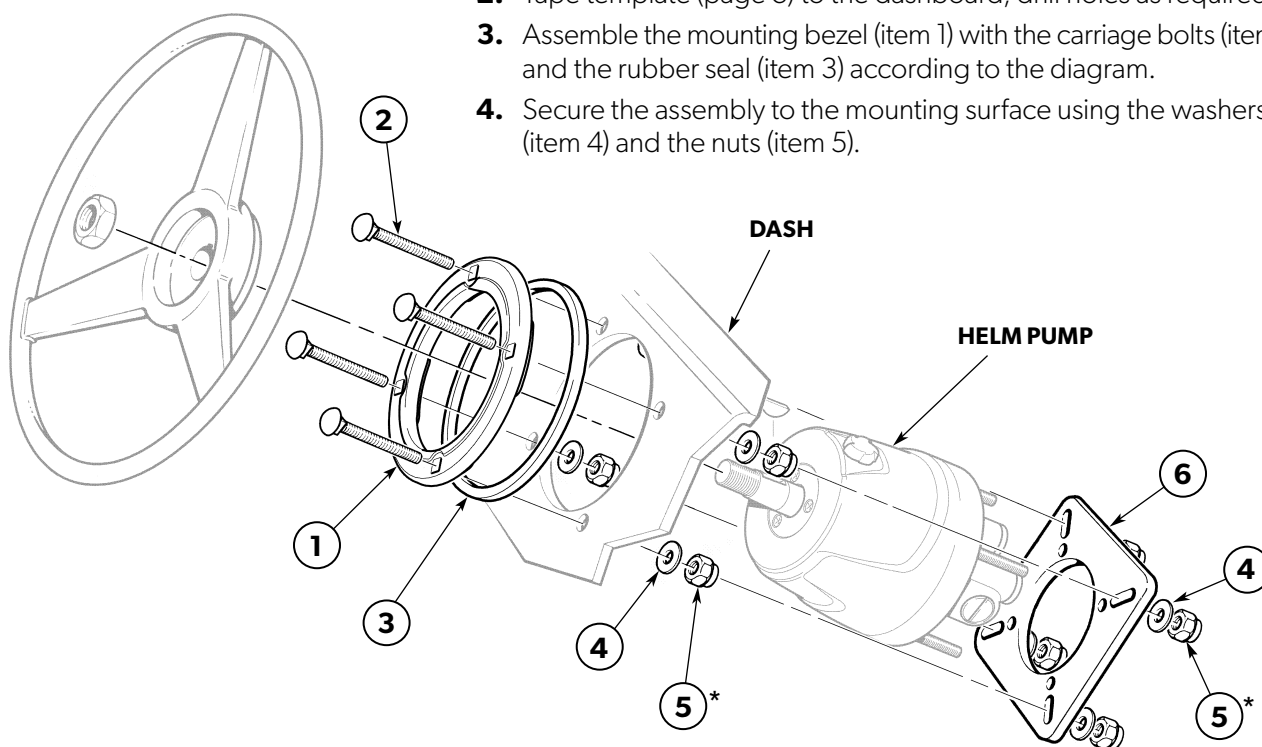
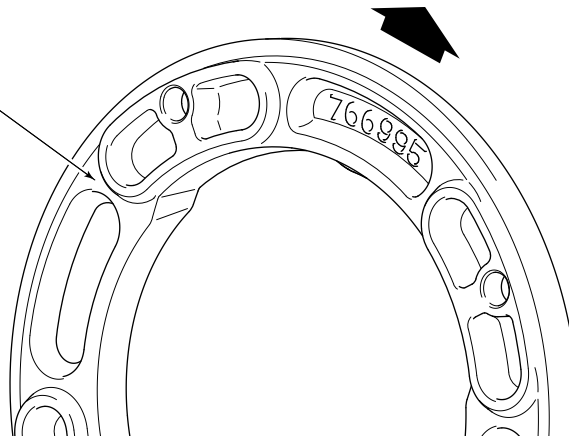

Figure 1.
Figure 2.
5. With the bezel casting part number aligned with the fill port plug (see arrow, figure 2), assemble the mounting bezel (item 1) with the carriage bolts (item 2), washers (item 4), and locking nuts (item 5) according to the figure 1 on page 1.
6. Insert the helm pump from behind the dash and through the hole. Secure using the anchor plate (item 6) and the remaining four nuts (item 5).